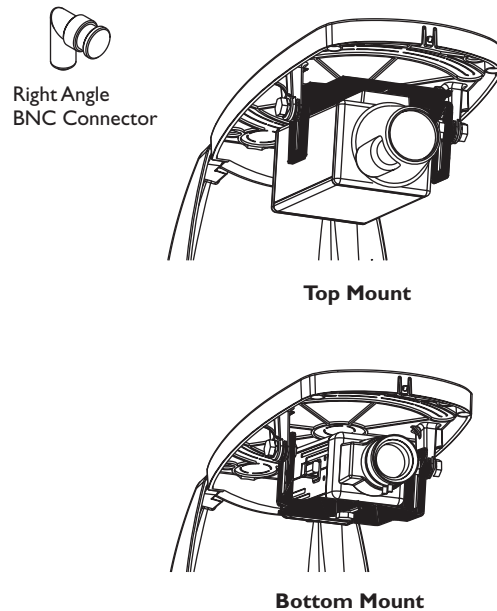

Figure 3 Installing the Camera - Top and Bottom Mounting Views
7. Install the camera on the camera bracket using the 1/4-20 bolt provided. The position of the camera bracket is adjustable, depending on the camera size and the viewing angle. You may install the bracket for either top or bottom mount (see Figure 3). Do not completely tighten the camera bracket at this time.